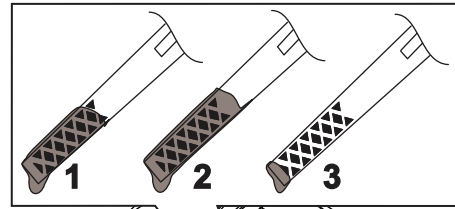

Figure 7
7. Read the oil level on the dipstick (Figure 7).
2. Remove the dipstick by rotating the cap counterclockwise and pulling it out (Figure 7).